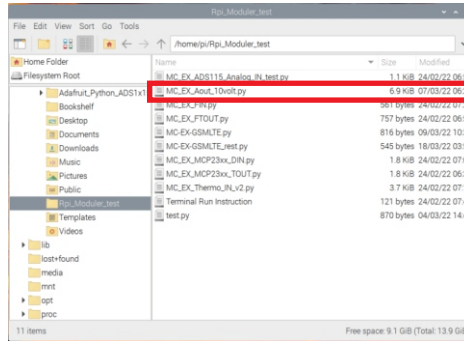

Figure 3: The example programs for expansion modules.
5. Select the **MC\_EX\_Aout\_10volt.py** example program that matches with the Analog Outputs expansion module shown in Figure 3.